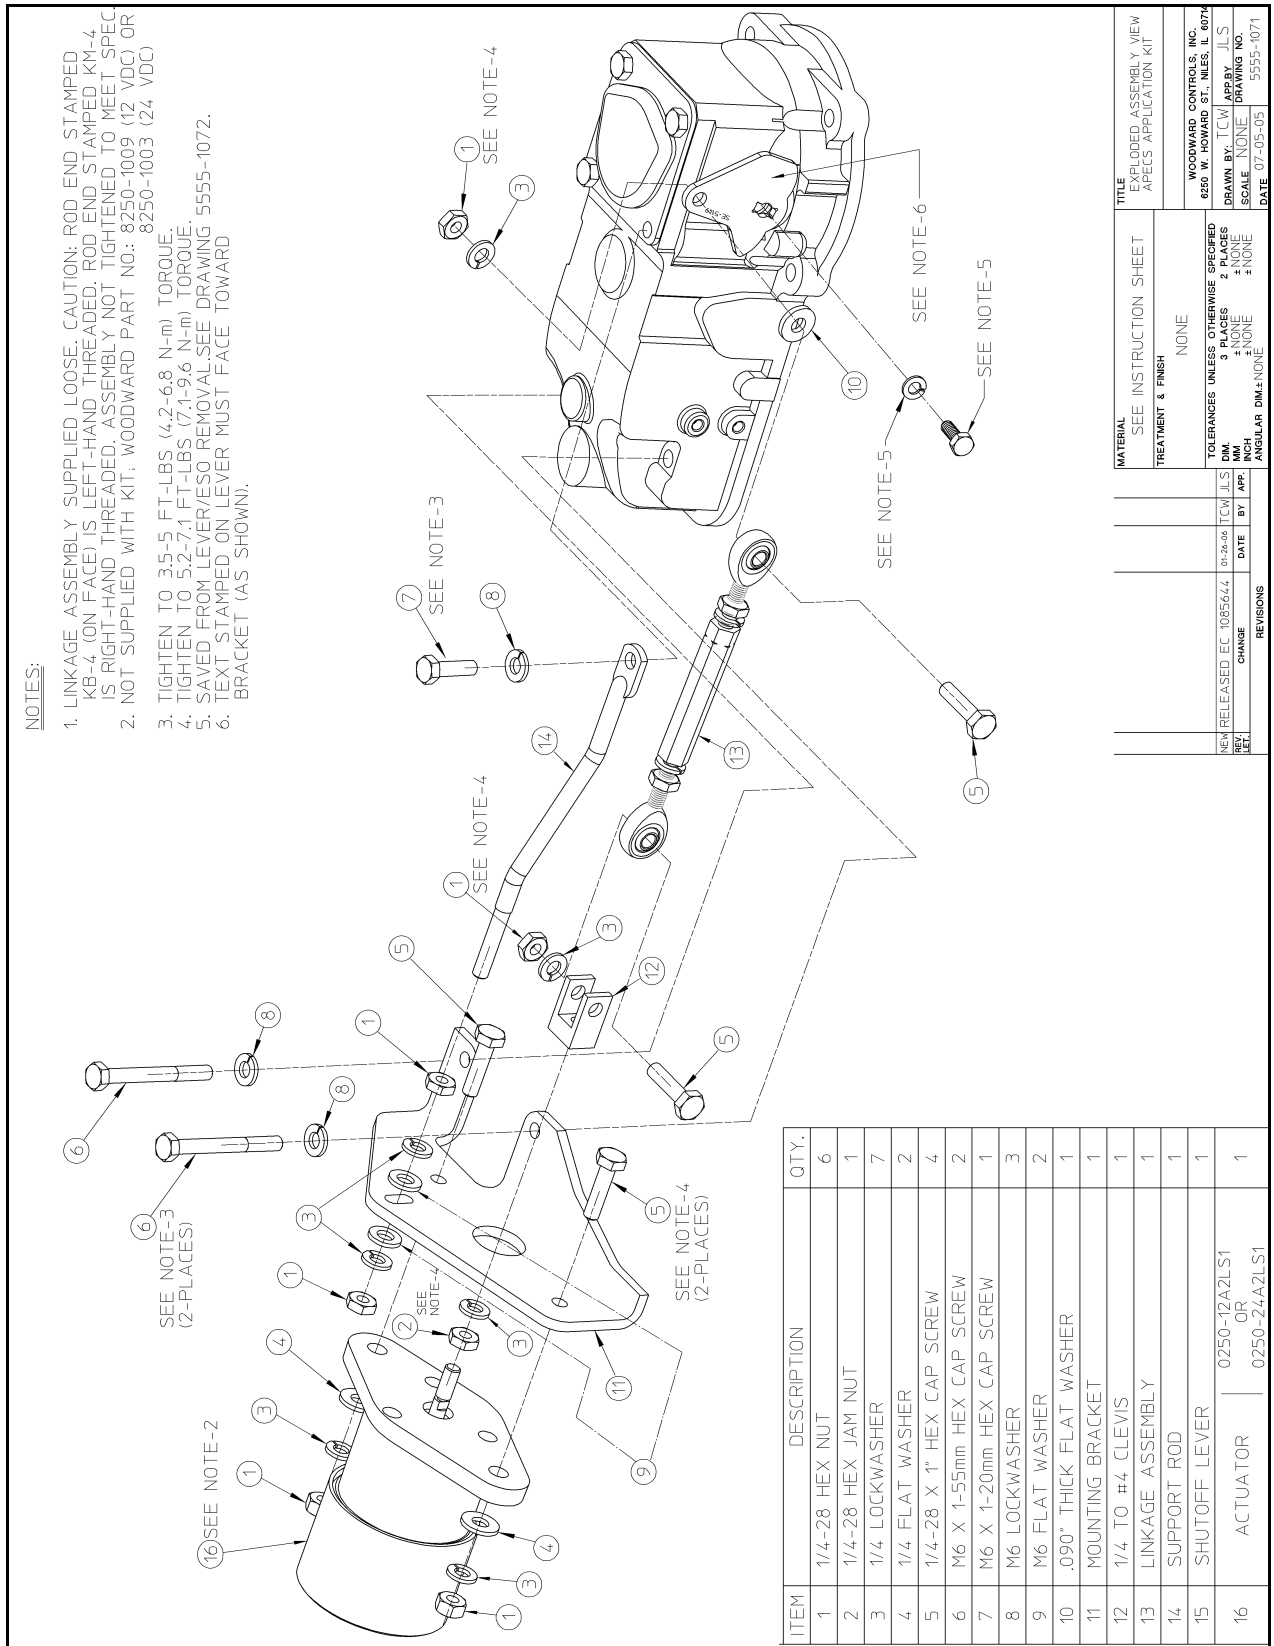
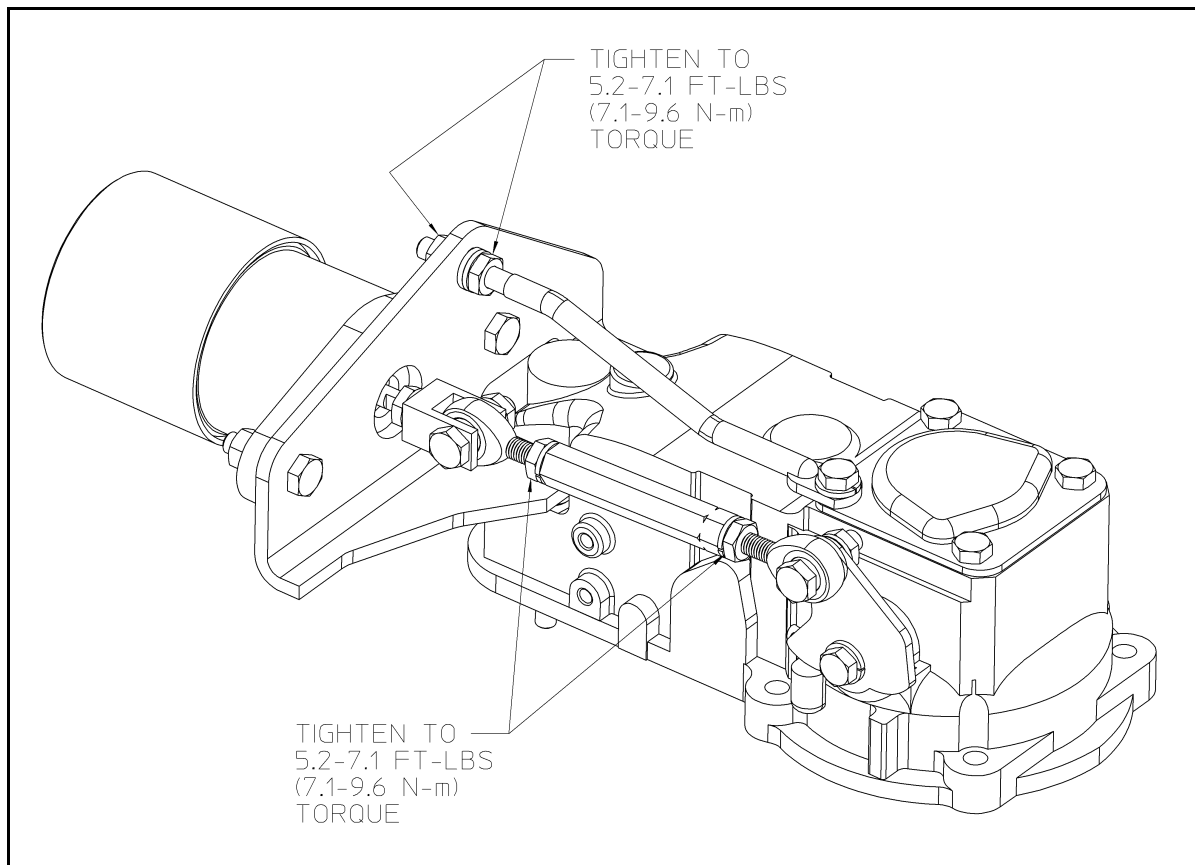

Figure 1. Exploded View
Figure 3. Final Assembly & Linkage Assembly Torque Specifications
| Figure 1. Exploded View | 2 |
| Figure 3. Final Assembly & Linkage Assembly Torque Specifications | 6 |
The APECS® 0250 kit is specifically designed for Isuzu 4JG1-TPV engines (Woodward P/N 8923-1169). Kit contents are listed in the table below; refer to the exploded view in **Figure 1** for parts identification.
Refer to **Figure 1**, which shows all hardware to be installed and torque specifications.
Refer to **Figure 3**. Bring hex nut on threaded end of support rod in contact with the bracket. Use another hex nut (1) lock washer (3) and flat washer (9) to secure the rod to the bracket. Tighten to torque specification shown in **Figure 3**.
Refer to **Figure 1**, which shows all hardware to be installed and **Figure 3** for torque specifications.
6. Reconnect battery. Start and stop the engine to ensure proper operation. Adjustment of the actuator linkage (13) may be needed so that the engine will shut down and reach full rated engine RPM under all conditions. After all adjustments are made, tighten linkage to torque specifications. Refer to **Figure 3**.